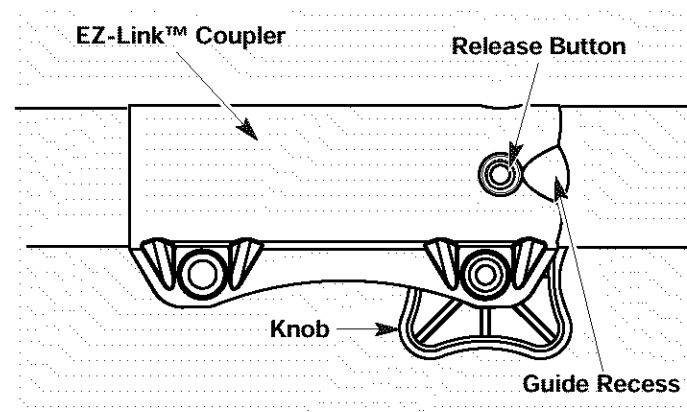

Fig. 19
1. Turn the knob counterclockwise to loosen (Fig. 19).
2. Press and hold the release button (Fig. 19).
**NOTE:** Aligning the release button with the guide recess will help installation (Fig. 19).